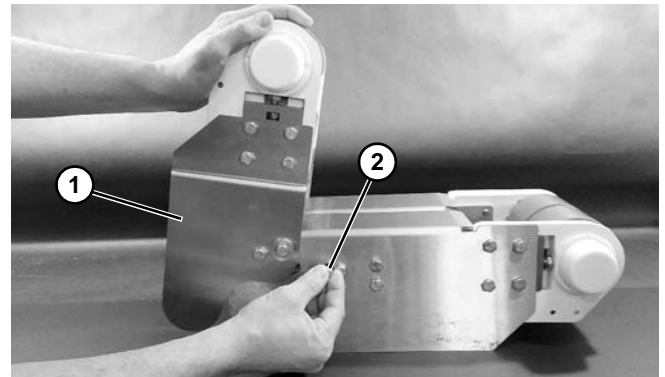

Figure 21
*To lower idler tail, push idler tail (**Figure 21, item 1**) to its maximum up position, and move locking lever (**Figure 21, item 2**) up to disengage lock. Lower tail slowly.*